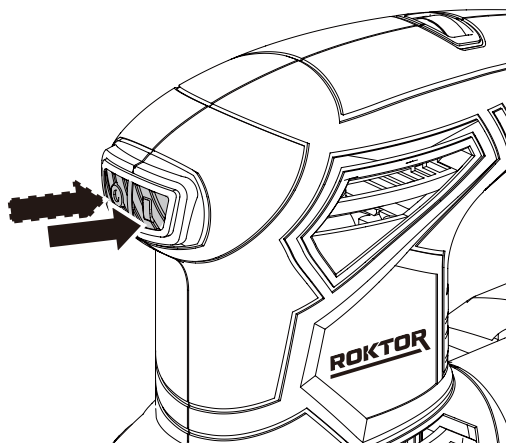

Figure 3
1. OPERATING THE ON/OFF SWITCH (SEE FIG. 3)